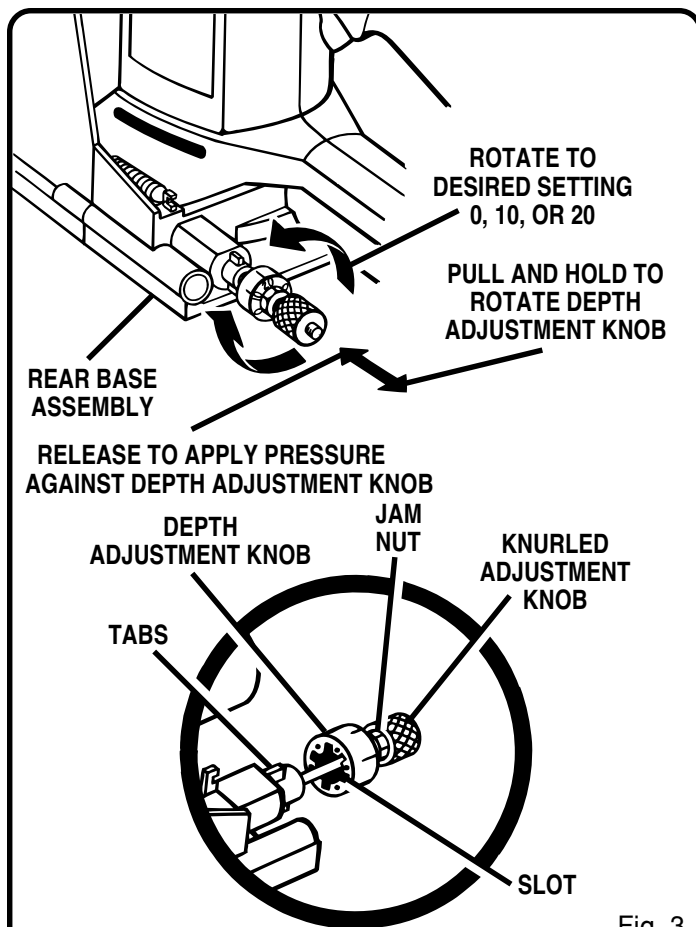

Fig. 3
Your plate joiner can be adjusted to three standard cutting depths to accommodate three standard size biscuits — #0, #10, and #20. Adjustments are made by engaging slots on depth adjustment knob with tabs on rear base assembly. For example, when using a #0 size biscuit, rotate the depth adjustment knob to the slot marked 0. When using a #10 size biscuit, rotate the depth adjustment knob to the slot marked 10, and when using a #20 size biscuit rotate the depth adjustment knob to the slot marked 20. See Figure 3.
2. Pull knurled adjustment knob and jam nut in the direction of the arrow shown in figure 3. **NOTE:** Knob and jam nut are spring loaded, therefore pulling them in the direction of the arrow shown puts pressure on the spring and releases pressure from the depth adjustment knob.